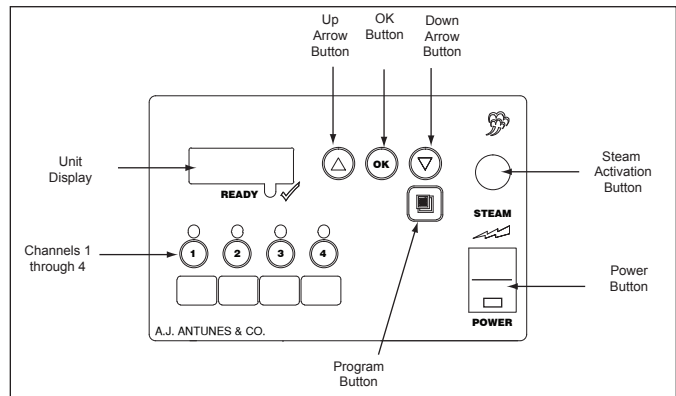

Figure 5. Primary Control Panel View
1. Press and hold the **PROGRAM** button until “**CYC**” appears on the display (Figure 5) then release the **PROGRAM** button.
NOTE: To save Programming changes, be sure to press the **PROGRAM** button (Figure 5) as soon as changes are made.